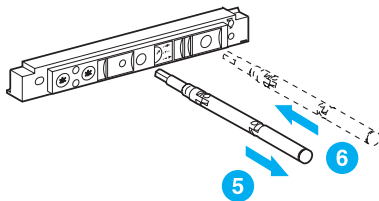

Fig. 4
- Put the crank back into its lodging (see Fig. 4).